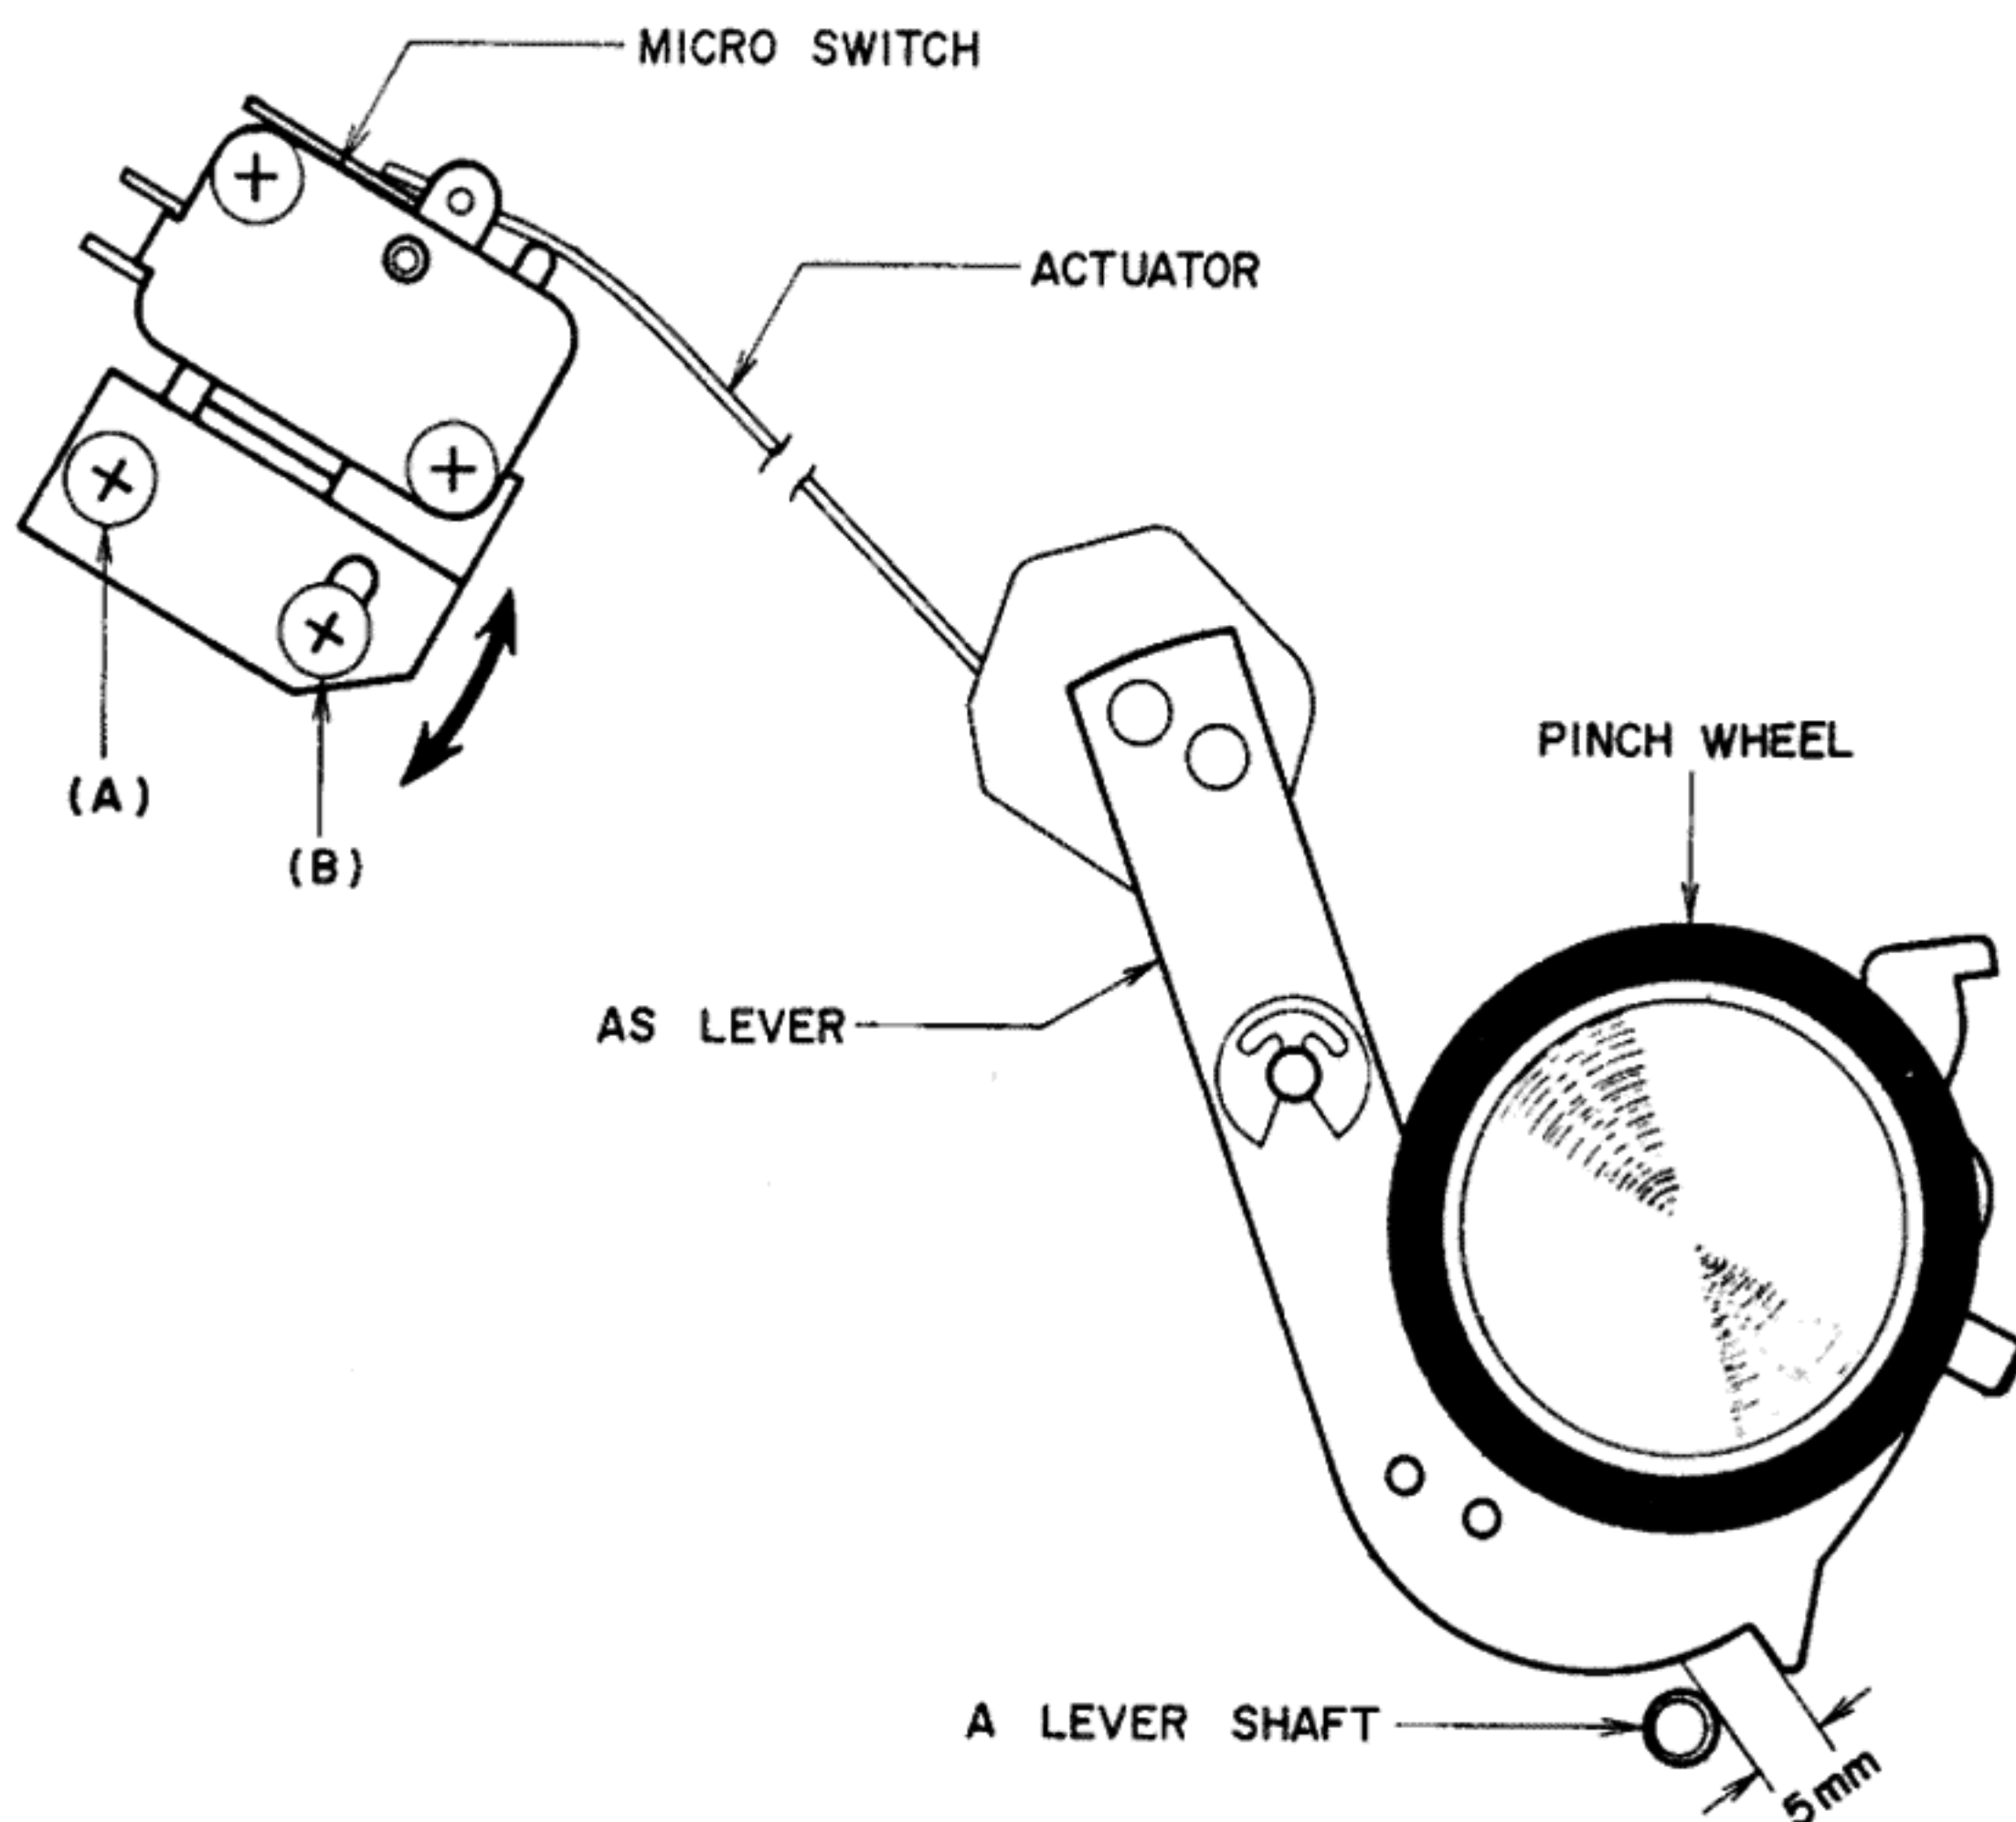

Fig. 15
7. AUTOMATIC SHUT-OFF OPERATING POINT ADJUSTMENT (See Fig. 15)